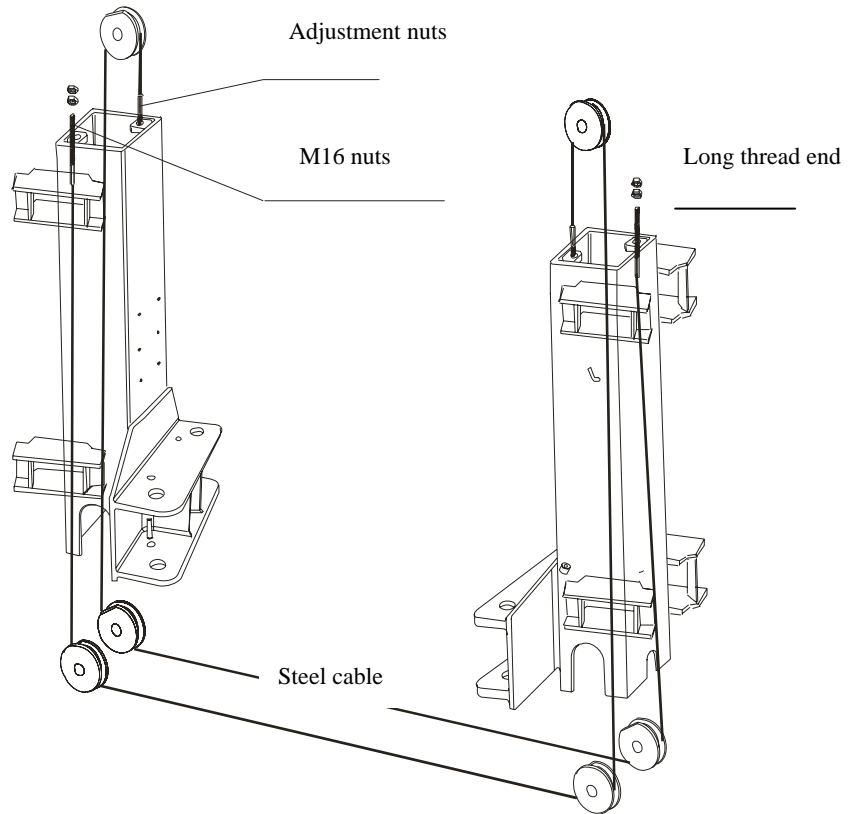

Figure 6
- Raise the two carriages to the safety locking position (make sure that the safety locks on each column are fully engaged before attempting to install cables), and two carriages are in equal position from the floor (same height). Install the two steel cables as shown in Fig. 6.